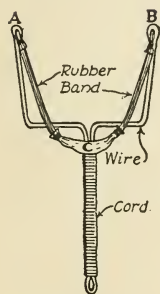

FIG. 238.
**An Elastic Sling** made with a wire framework, as shown in Fig. 238, is an improvement over the one made out of a tree crotch, as it is not easily broken. About No. 12 wire, which is the thickness of eight-penny nails, should be bought for this. With a pair of pincers, bend it into the shape shown in the drawing, with loops at *A* and *B*. Wrap the handle with cord, and attach strong rubber bands to *A* and *B*, with a piece of shoe leather or kid glove set in between, at *C*.